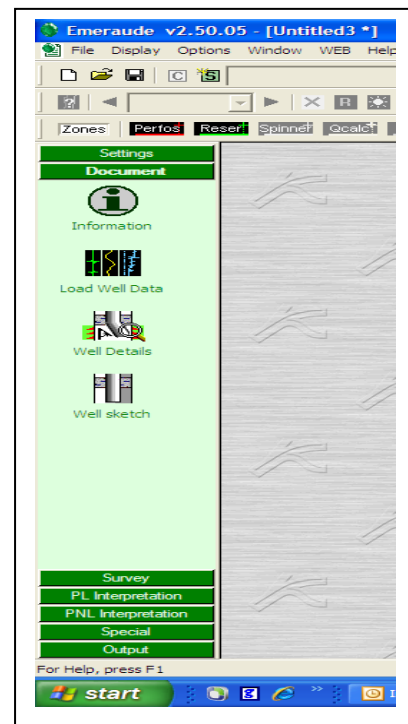

Figure 2.1: Document page
2.1 After creating a new interpretation file the Document page is opened, Fig. 2.1. From top to bottom, the icons in the Document mode are: